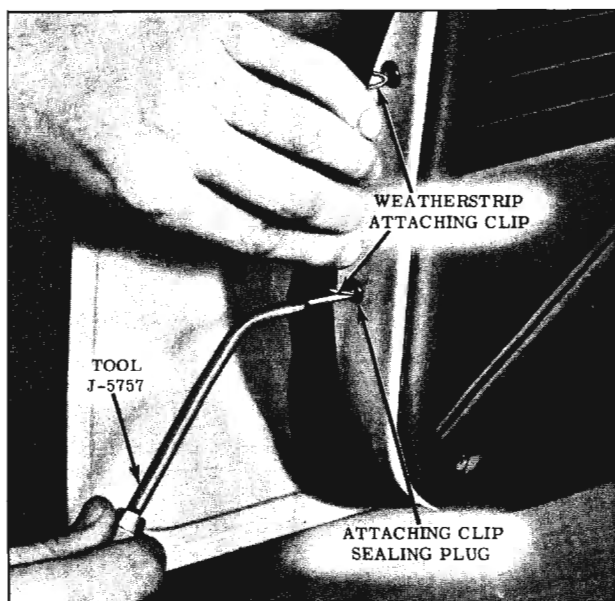
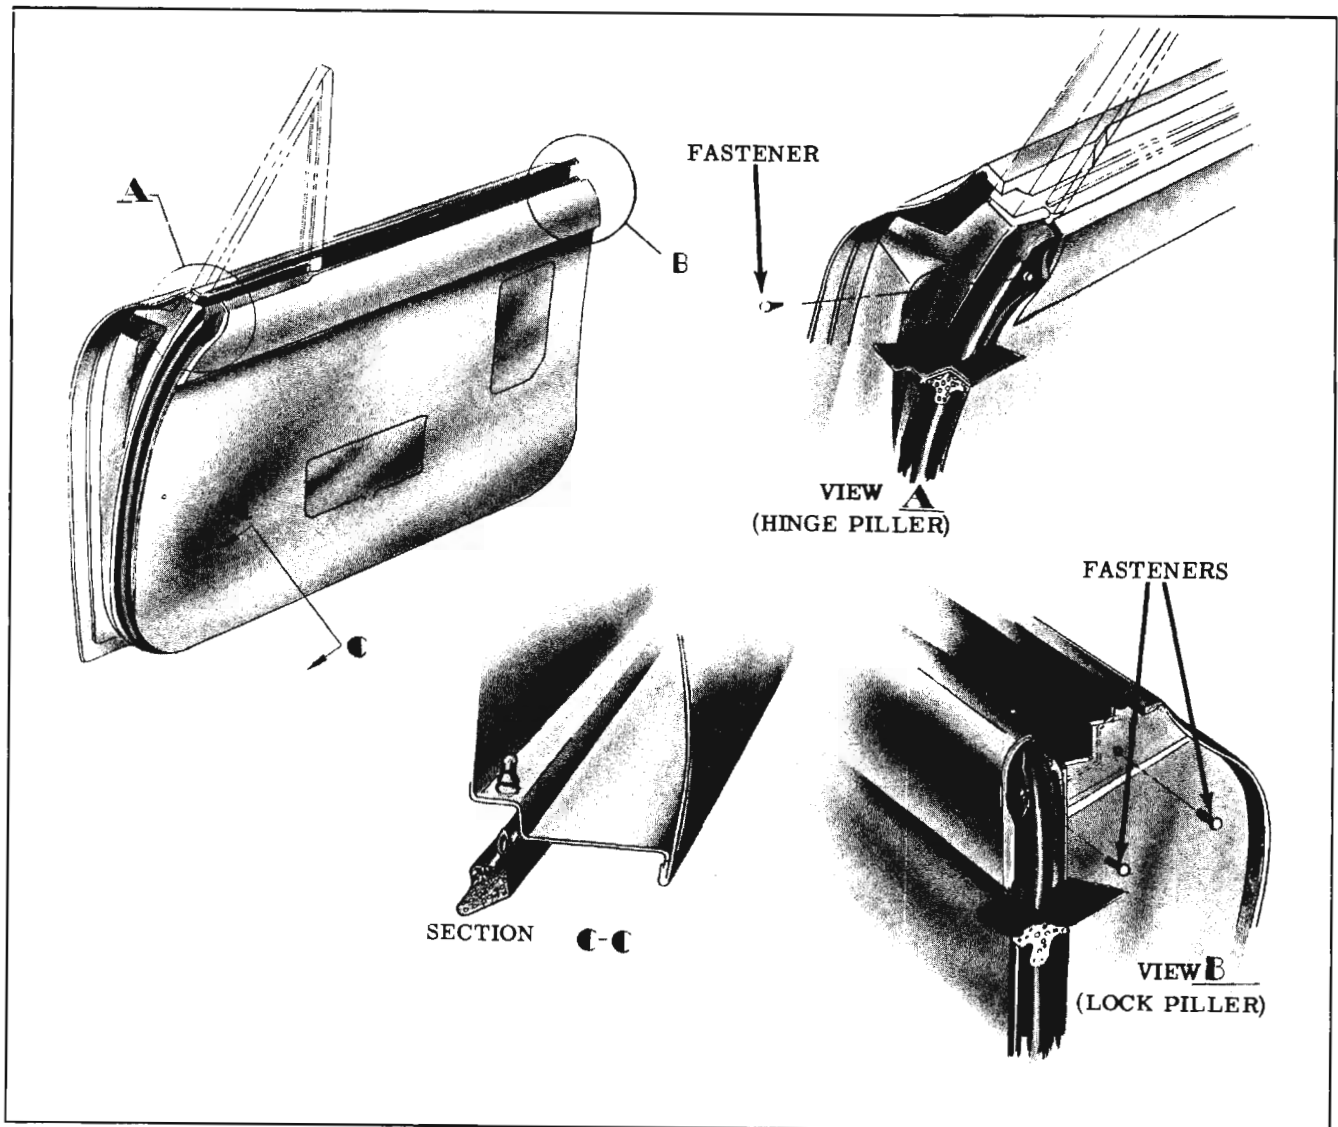

Fig. 16-228 Removing Door Weatherstrip
Fig. 16-232 Weatherstrip Fastening
carefully snap clips from retaining plugs and remove weatherstrip from door. (Fig. 16-228)
door pillar, install clips to door by placing notched end of Tool J-5757 in loop of clip and pushing clip into attaching hole sealing plug. Repeat operation along both sides and bottom of door. (Fig. 16-228 and Section "B-B")
- With a screwdriver, or other suitable tool, carefully snap weatherstrip fasteners, at belt line of hinge and lock pillar panels, from door (Views "A" and "B" in Fig. 16-232).
- Insert tip of Tool J-5757 at clip locations and carefully snap clips from retaining plugs and remove weatherstrip from door (Fig. 16-228 and Section "C-C" in Fig. 16-232).